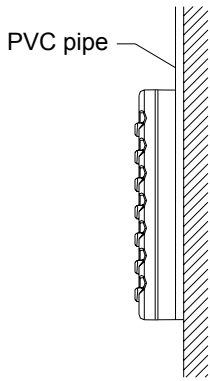
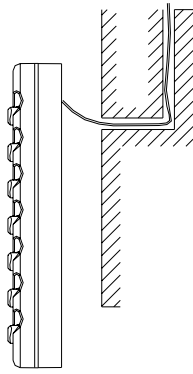

Fig. 22 Cable of direct installation
Fig.23 Cable of concealed installation
- The connection wire between indoor unit and controller can be laid in the pit with 1# PVC pipe for direct installation (Figure 22). For concealed installation, 1# PVC can also be utilized (Figure 23).